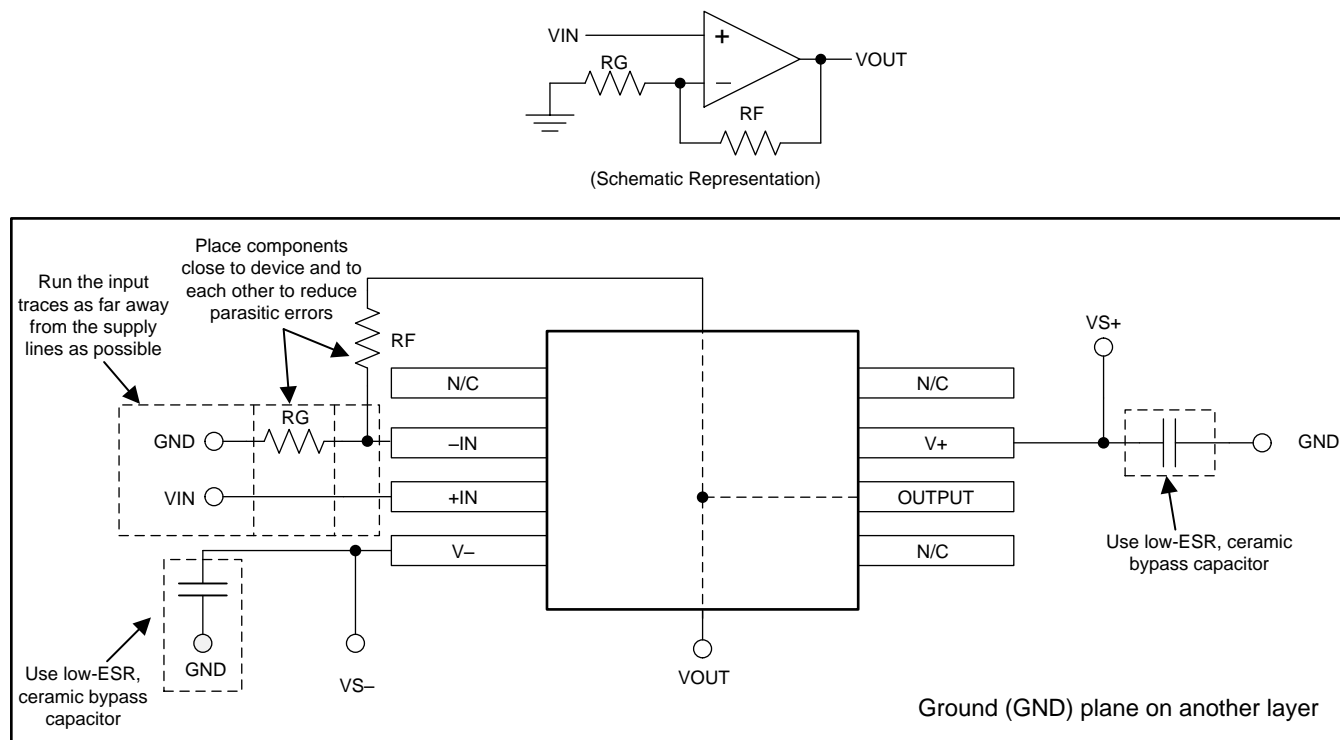

Figure 32. Layout Example
- Place the external components as close to the device as possible. As shown in Figure 32, keeping RF and RG close to the inverting input minimizes parasitic capacitance.